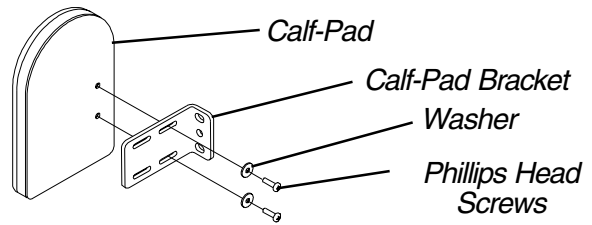

FIGURE 16 - REMOVING/INSTALLING CALF-PADS
**REMOVING/INSTALLING THE CALF-PADS (FIGURE 16)**
2. Remove the two (2) phillips head screws and washers that secure the calf-pad to the calf-pad bracket.